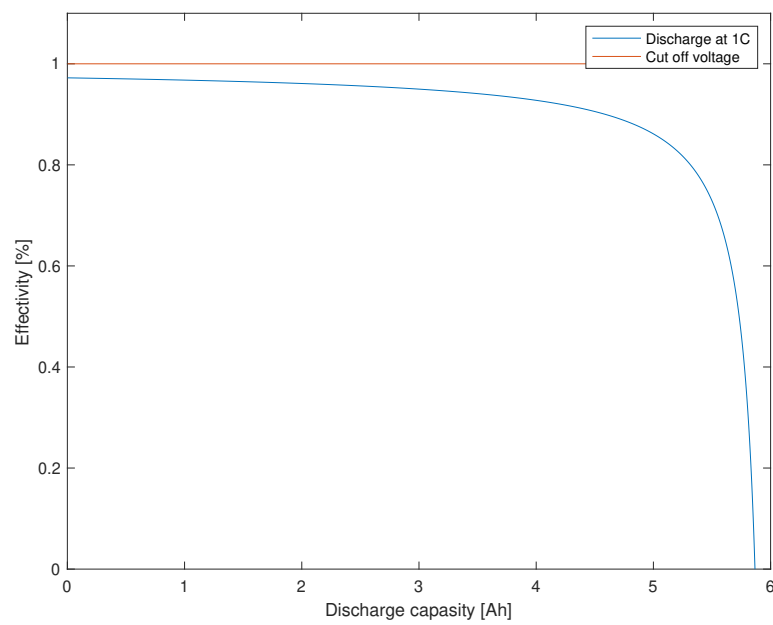

Figure 2.8: The momentary efficiency for a discharge current of 1C.
- c) The highest efficiency is found when the battery still has SoC 100% and is $\eta = 0.9722$. This can be seen in Figure 2.8. The result is achieved by making small changes to the code in task a).